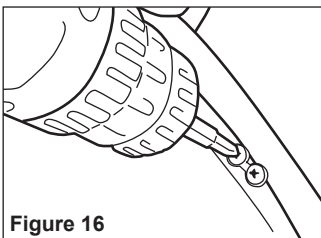

Figure 16
- Remove the two screws on each side that are holding the chinstrap in place. Save all hardware removed for reassembly after TrakLite is installed (Figures 16 and 17).